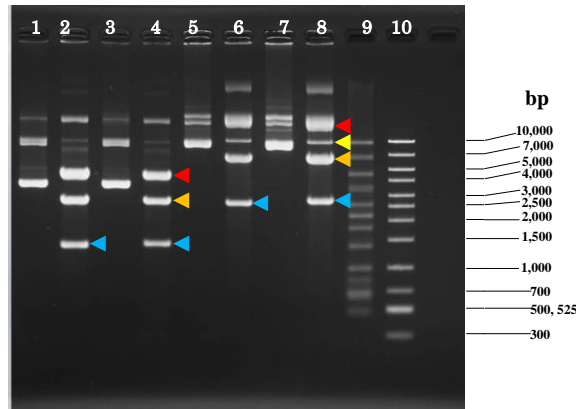

Figure 3. Analytical agarose gel electrophoresis of denatured and double-nicked plasmids.
3. After electrophoresis, immerse the gel in a solution containing 0.5 µg/ml of ethidium bromide for approximately 20 min. Then examine the gel on a UV illuminator (figure 3).